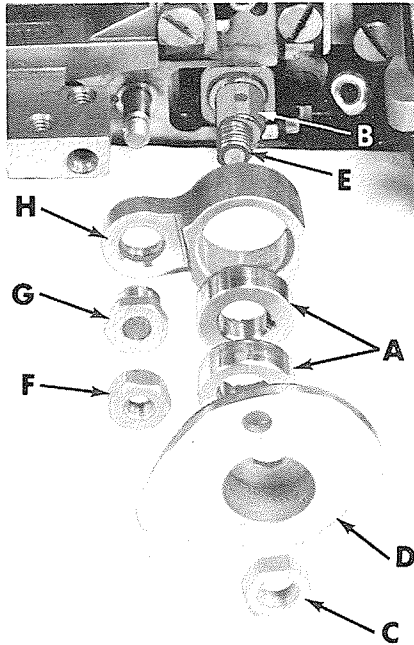

Fig. 18
The outer (left) eccentrics (A, Fig. 18) actuate main (rear) feed dog. In assembling feed eccentrics, be sure hubs are facing each other. Be careful not to damage the shaft or key.
To change feed eccentrics, remove screws (C, Fig. 17) securing cast-off support end plate (D); remove screws (E) and screw securing the extreme right end of cast-off support plate (F) accessible with chip chute (G) open; turning handwheel to position 401 looper at extreme right, permitting removal of the left main feed thrust bar guide (H) with cast-off support plate (F) assembled. Remove nut (C, Fig. 18) and looper thread take-up (D) from end of shaft (E). Turn handwheel in operating direction until key slot in eccentric is toward the front. Using hooked eccentric extractor supplied with machine, reach behind eccentrics and withdraw eccentrics. It may be necessary to move handwheel back and forth slightly during extraction.
If eccentrics are unusually tight fitting, in addition to removing nut (C) and take-up (D, Fig. 18) from shaft (E), it may be helpful to remove nut (F), ferrule (G) and feed driving connection (H). Then continue as originally suggested.
NOTE: Before tightening nut (C, Fig. 18) refer to paragraph under "401 Looper Thread Control Adjustments".
NOTE: When eccentric cams are changed or looper thread take-up requires adjustments, always torque nut (C, Fig. 18) to 24-25 in. lbs. (28-29 cm/kg).